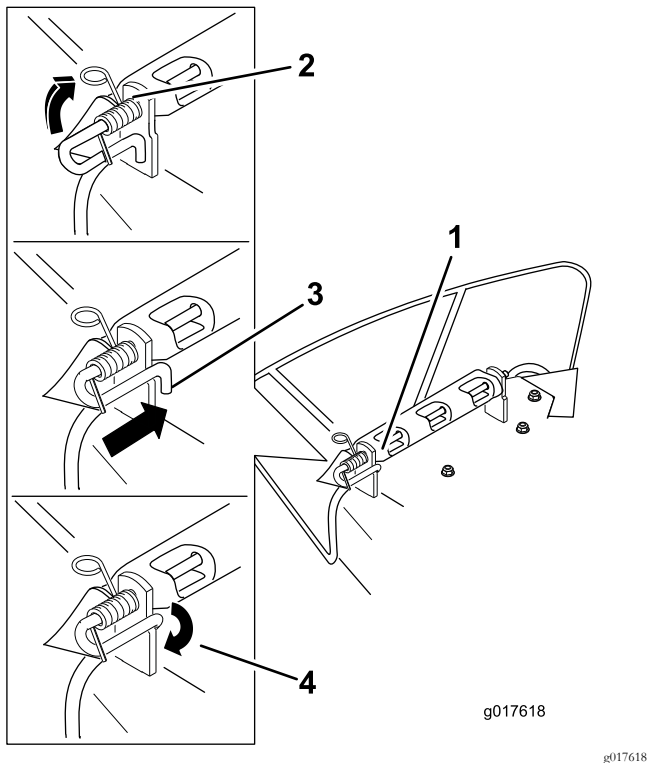

Figure 61
- Position the new discharge deflector with the bracket ends between the welded brackets on the deck as shown in Figure 61.
- Lift the loop end of the spring and place it into the notch on the deflector bracket (Figure 61).
- Secure the rod and spring assembly by twisting it so the short end of the rod is placed behind the front bracket welded to the deck (Figure 61).